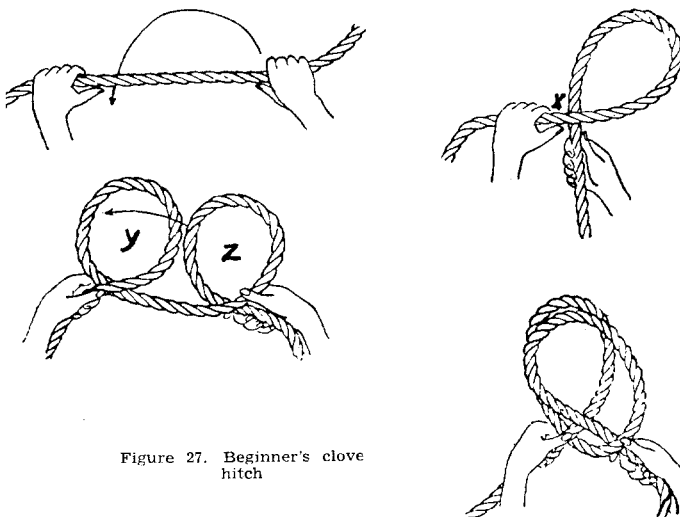
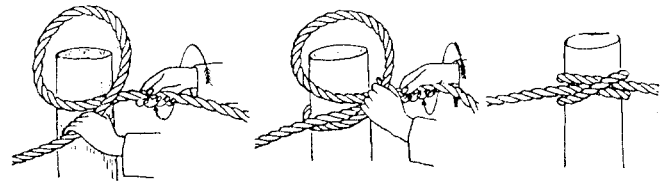

Figure 27. Beginner's clove hitch
Figure 28. Sailor's clove hitch
1. **CLOVE HITCH - BEGINNER'S METHOD.** To make the hitch by this method, the rope is held in both hands as shown in Figure 27 (upper left). The right hand is then made to describe a curve, as illustrated by the arrow, passing under the rope at x (upper right). Hold the half hitch in the left hand and throw the second loop in the same manner as the first (Figure 27, lower left). Slide the loop last formed z over the first y, as indicated by the arrow.
2. **CLOVE HITCH - SAILOR'S METHOD.** Oftentimes it is desirable to form a clove hitch where there is a pull on the rope. This can be done by sustaining the weight with the left hand as in Figure 28, left, forming a loop with the right hand as illustrated in the beginner's method (Figure 27) and passing the loop over the top of the post. The end of the rope is then held in the left hand, and another loop made with the right hand (Figure 28, middle), is thrown over the post.